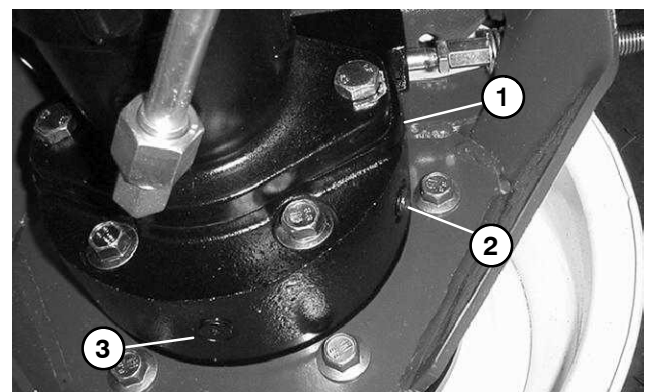

Figure 3
8. Make sure drain plug is installed in bottom of brake assembly (Fig. 3). Fill planetary wheel drive/brake assembly with SAE 85W-140 gear lube (see Traction Unit Operator's Manual).